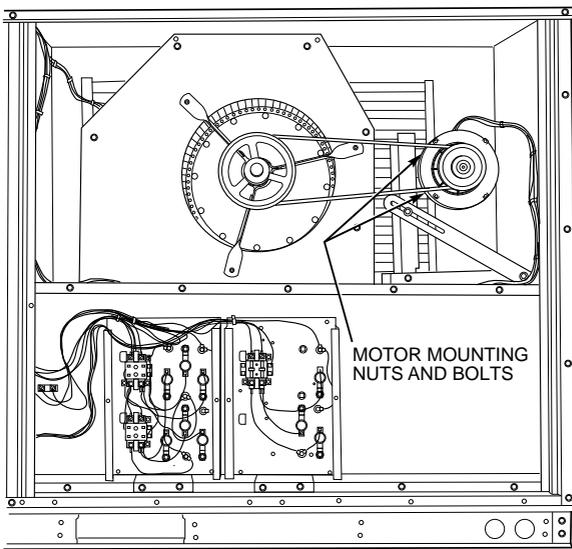

Fig. 18 — Belt-Drive Motor Mounting
- Loosen belt by loosening fan motor mounting nuts. See Fig. 18.
To adjust belt tension (see Fig. 18):